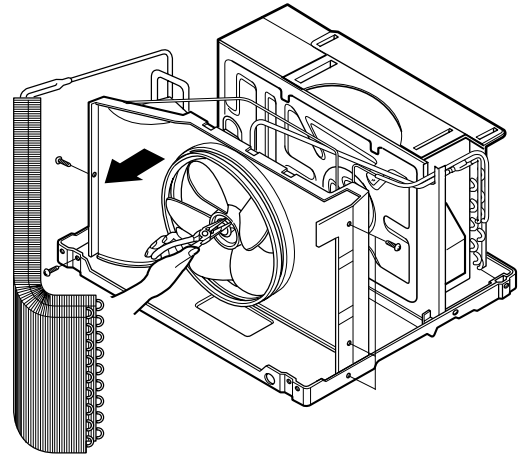

Figure 14
7. Re-install the components by referring to the removal procedure. (See Figure 14)